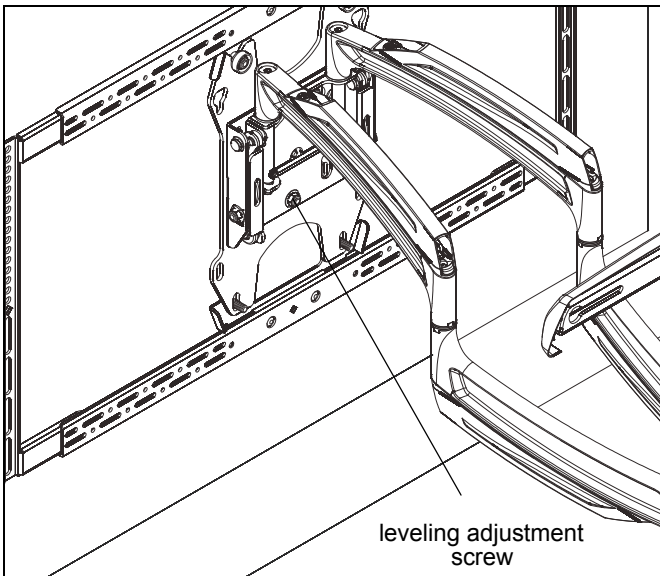

Figure 22
1. Adjust leveling adjustment screw on back of faceplate to increase or decrease leveling friction. (See Figure 22)